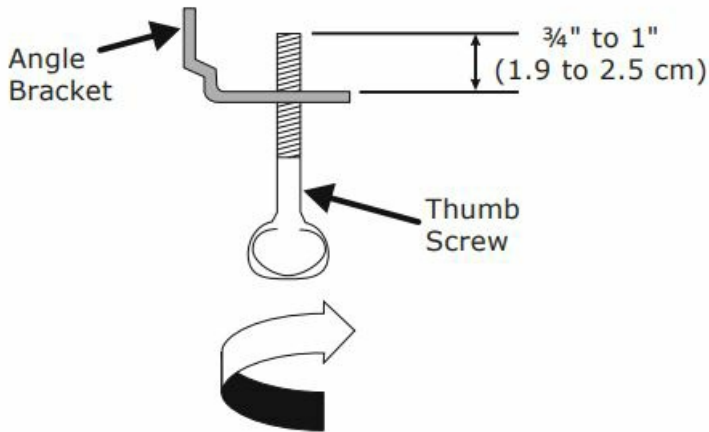

Figure 6b
5. If you are using Installation Bracket type 2, insert the thumb screw supplied (2) in the angle bracket as shown below (Fig. 6b):